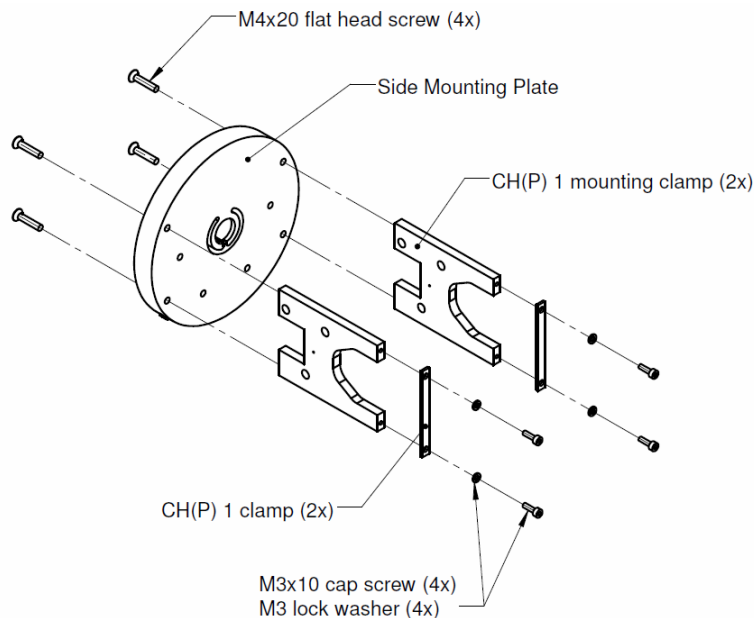

Figure 4.6: Assembling Side Mounting plate with CH(P) 1 pyrheliometer mounting kit
A second Side Mounting plate is used in conjunction with the Shading Ball Assembly or for mounting a second Pyrheliometer. The supplied plates can be customized to meet your specific configuration requirements. For alignment of the second mounting plate a clear sun is required to adjust the position on the axis. During normal operation (SOLYS 2 turned on) the position of the side mounting plate can be fixated when the alignment target on the mounting clamps (or Pyrheliometer) The hole pattern of the Side Mounting Plate is given in figure 4.6. If the second side mounting plate is used to mount the shading drive arm (without instrument mounting clamps) this drive arm should be aligned with the first one before fixating the screws on the axis. SOLYS 2 can handle payloads up to 20 Kg including all accessories.
- Pre-assemble the Side Mounting Plate as shown in figure 4.6 and attach the Side Plate Assembly to the Zenith shaft. Ensure that the plate is pushed up against the end of the Zenith shaft.